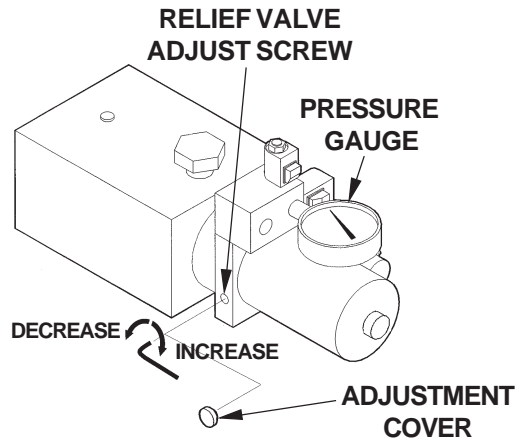

FIG. 46-1
9. With Platform on the ground, remove the pressure hose and fitting from the Pump and replace it with a 0-3000 PSI Pressure Gauge. Hold the Control switch in the "RAISE" position. Adjust the Relief Valve on the side of the Pump until the gauge shows 2200 PSI (**FIG. 46-1**). Remove gauge and reinstall pressure hose.